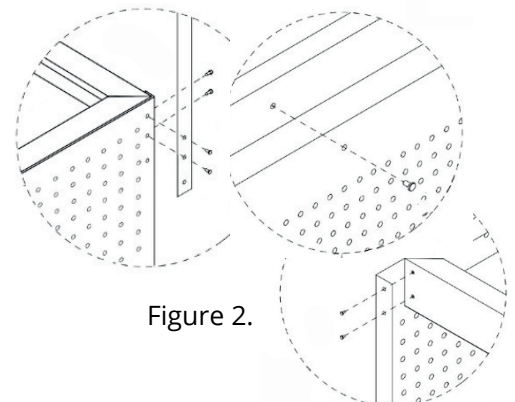

Figure 2.
7) Locate (18) black M6 (1mm x 12mm long) screws and with the holes aligned begin to hand thread screws in all four corners and (2) on each side of the upper and lower cart. (See figure 2.).